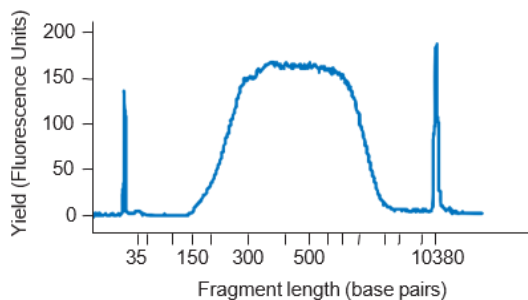

Figure 2. Example of trace of amplified library from a single HEK293 cell (19 cycles). Data obtained from Picelli *et al.* 2025.³
- 10.15 Use the average size indicated on the Bioanalyzer and the concentration reported after Qubit measurement to determine the exact molarity required for sequencing. Example of trace shown in Figure 2.